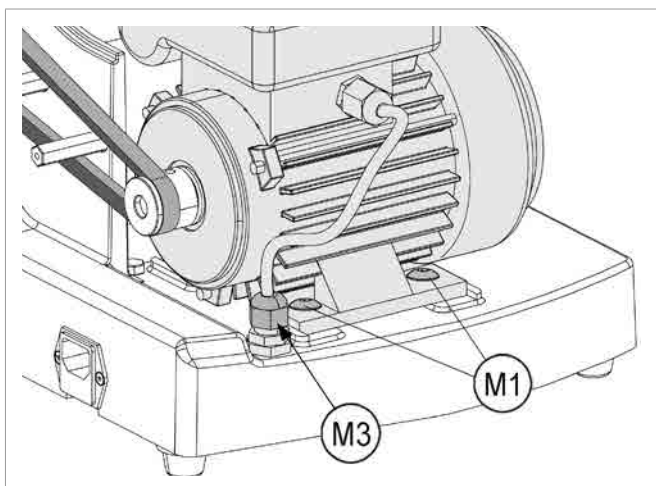

Fig.41
- 7) Unscrew the wire grommet (M3) (Fig.41).